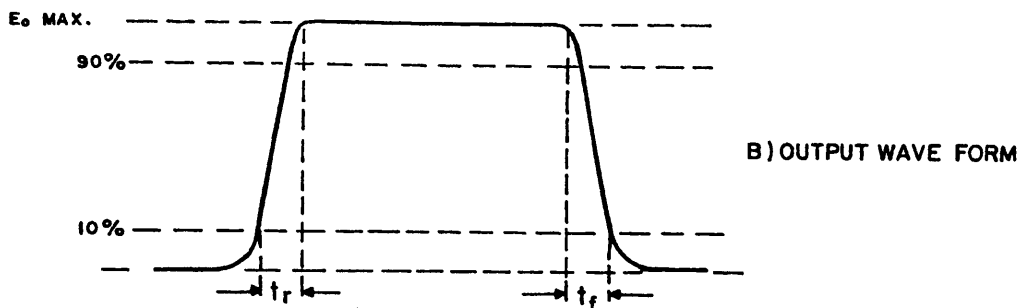

FIG. 5-6 MEASUREMENT OF THE RISE AND FALL TIME
5-24 PROCEDURE (Refer to FIG. 5-6)
- 1) Connect the BOP and the external instrumentation as shown in FIG. 5-6. **Note:** The Signal Generator may be connected (without the 10K Ω resistor) to the BOP front panel VOLTAGE PROGRAMMING INPUT terminals.